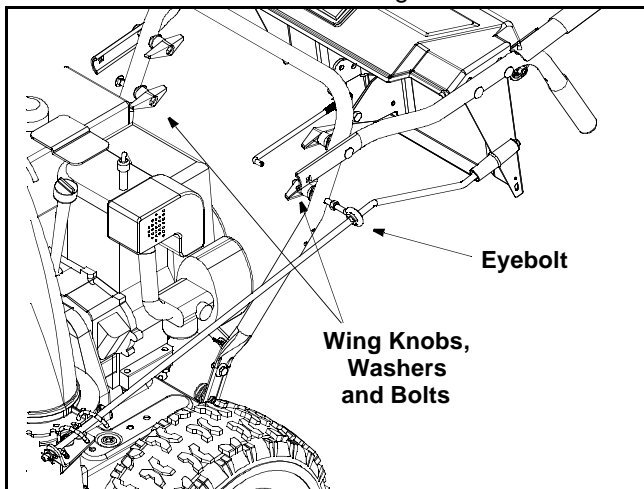
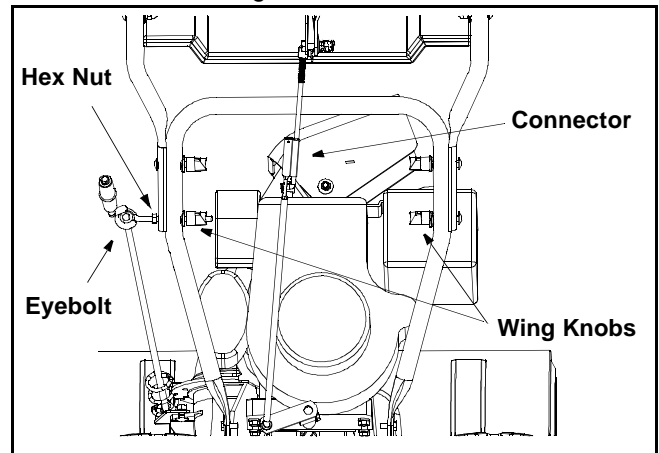

Figure 2
Figure 3
- Remove the **lower** two plastic wing knobs, cupped washers and carriage bolt (eyebolt on the left side) from the lower handle. See Figure 2.
- Raise the upper handle assembly until it locks over the lower handle. See Figure 2 and Figure 3.
- Secure the upper handle and lower handle with the two plastic wing knobs, cupped washers and carriage bolt (eyebolt on the left side) previously removed. See Figure 3.
- Slide the shift rod connector down over the end of the lower shift rod. See Figure 3. Tap the connector until it **locks** on the lower shift rod.